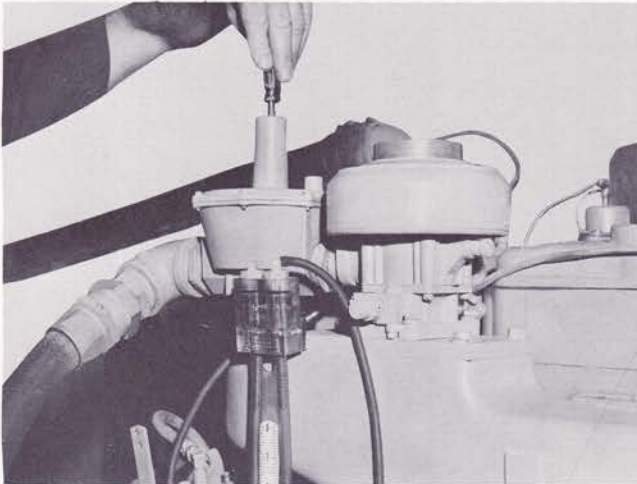

Fig. 4-11. Adjusting pressure-reducing valve
- b. Insert screw driver in adjusting screw, Fig. 4-11, and adjust to obtain desired pressure on water manometer; replace cap.